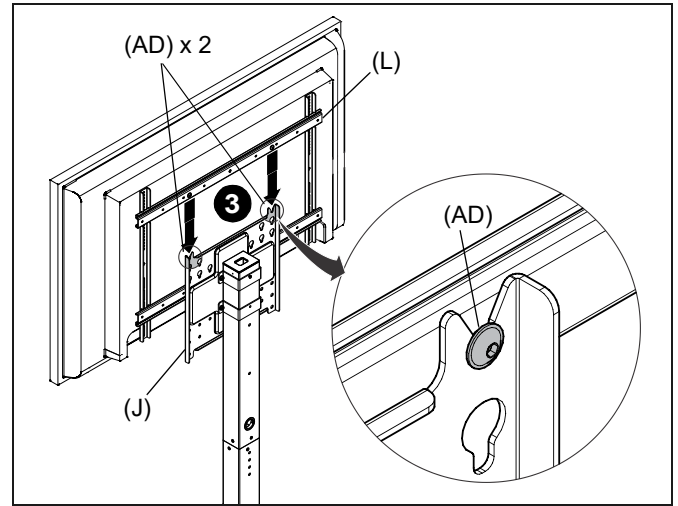

Figure 13
3. Lower display into place, making sure the screws are properly seated in lower areas of mounting holes. (See Figure 13)